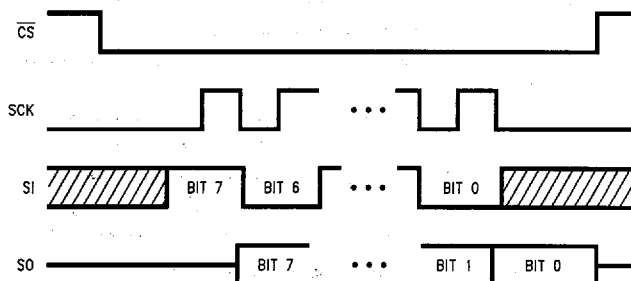

FIGURE 3. SPI Protocol
**TRANSMITTER/RECEIVER:** The NM25C040 has separate pins for data transmission (SO) and reception (SI).
**PROTOCOL:** When connected to the SPI port of a 68HC11 microcontroller, the NM25C040 accepts a clock phase of 0 and a clock polarity of 0. The SPI protocol for this device defines the byte transmitted on the SI and SO data lines for proper chip operation. See Figure 3.